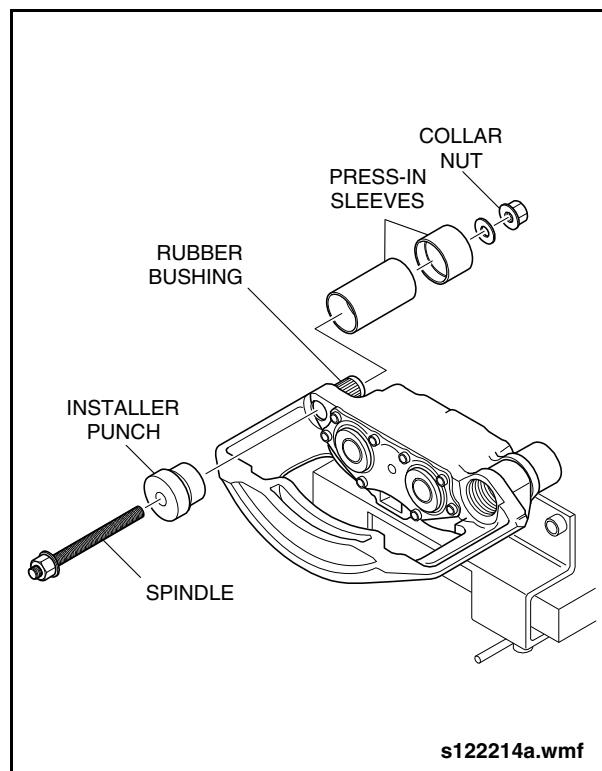

Fig. 1-61: Rubber Bushing Removal
- a. Assemble and install the installer punch, press-in sleeves, spindle, and collar nut (Items 72, 77, 75, 71, & 70 from special tools list). See "Fig. 1-61: Rubber Bushing Removal" on page 63.